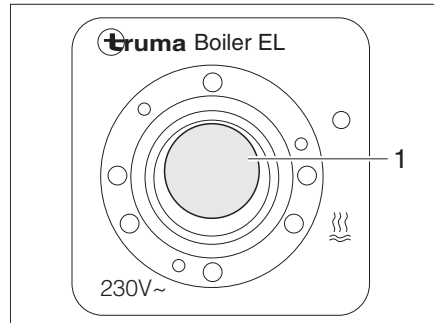

Fig. 125 Flip switch for Truma boiler (240 V electrical operation)
- Set the flip switch (Fig. 125,1) to on. The indicator lamp on the switch is illuminated. The water in the boiler is heated up to 65 °C.
- Set the flip switch (Fig. 125,1) to "0". The indicator lamp on the switch goes off.
- Set the rotary switch (Fig. 124,3) on the operating unit (Fig. 124) to "O" (Fig. 124,4) or the flip switch (Fig. 125,1) to "O".